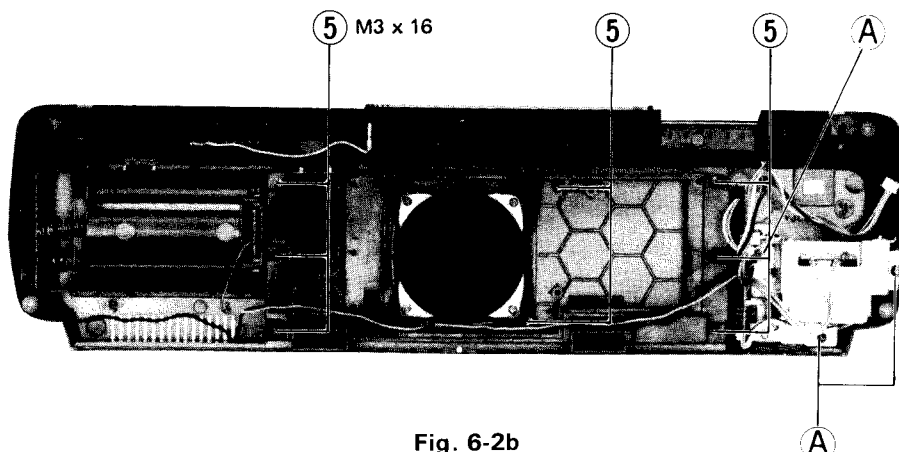

Fig. 6-2b
■ Power Transformer and Power Supply Board (Fig. 6-2b)
1. Remove three screws ⑪ retaining the power transformer and power supply board.